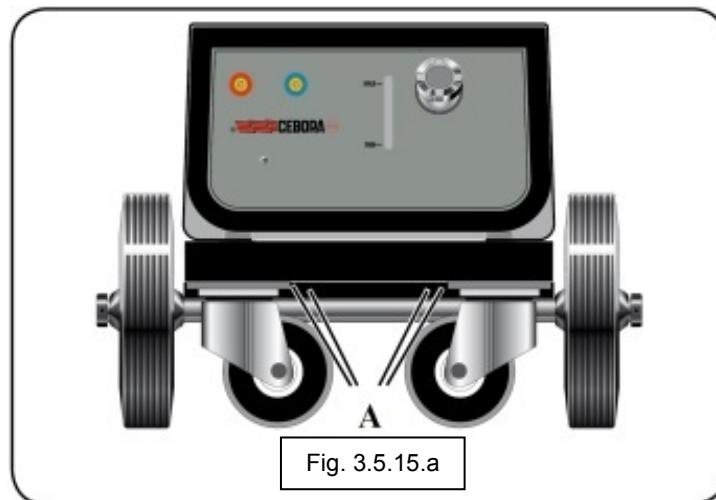

Fig. 3.5.15.a
When the power source is turned on, microswitch board (37) checks that the cooling unit is connected using the signal provided by the jumper between terminals 1 and 2 of the connector (9) located on the cooling unit. (Fig. 3.5.15.C)). With connector (9) disconnected, or the jumper open, the cooling unit is disabled and the cooling unit cannot be selected from the control panel. In the MMA process, operation of the cooling unit is kept disabled.
## COOLING UNIT ACCESSIBILITY (Fig. 3.5.15.a)